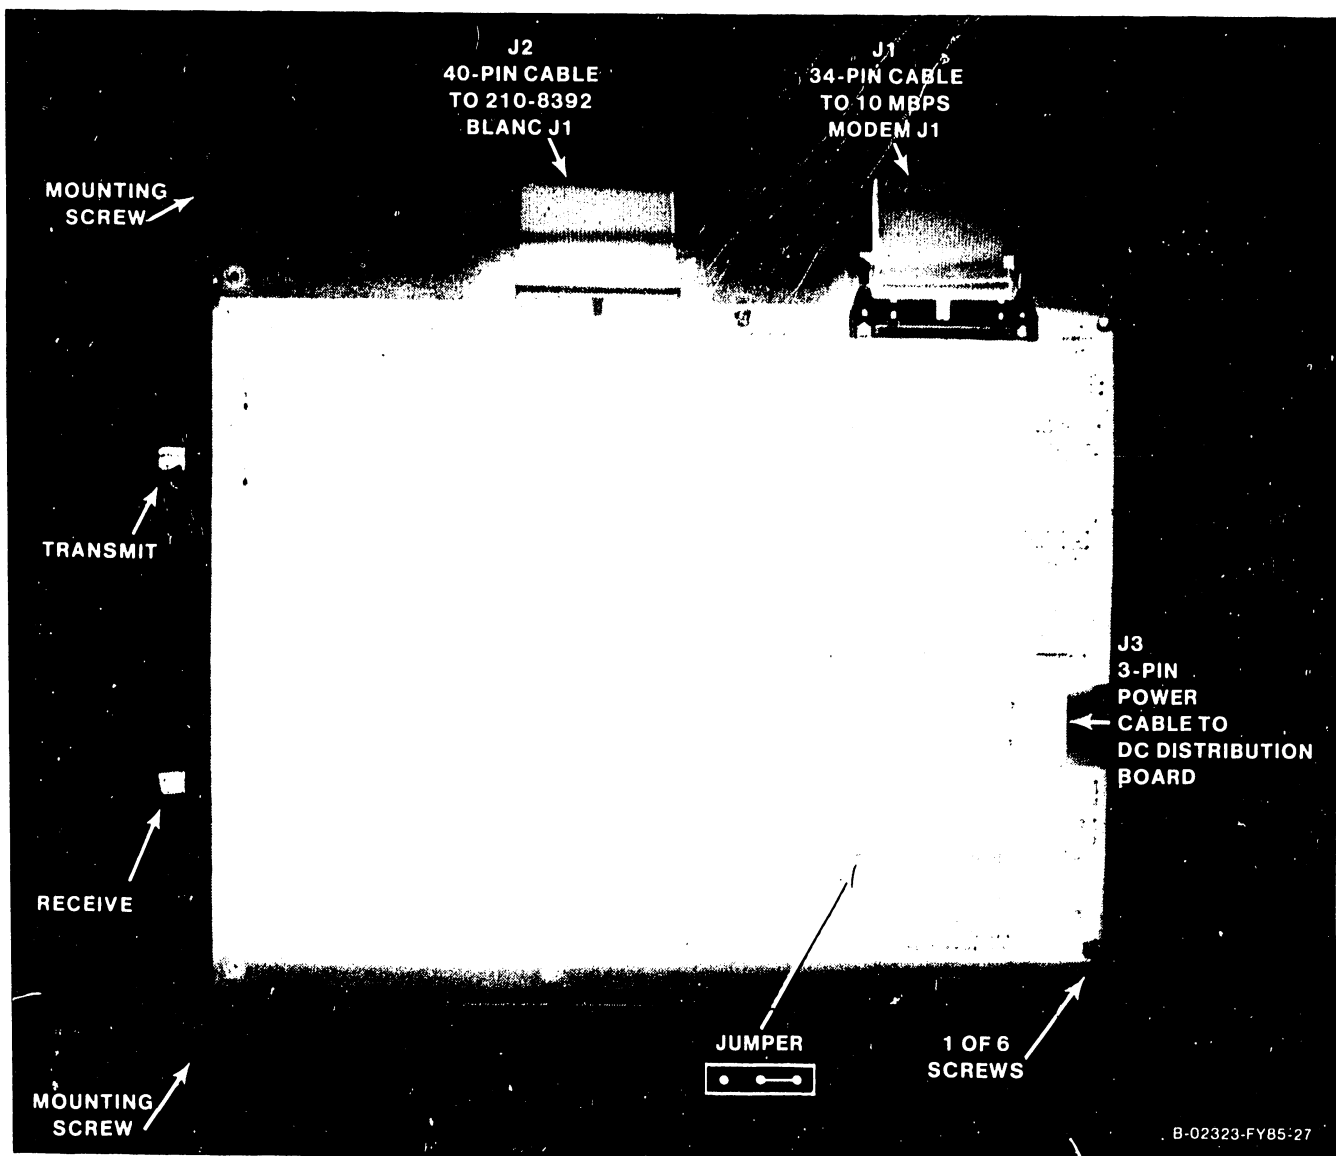

Figure 7-39. 23V79 CIU CAB Board
1. The 279-0722 CIU CAB board/Single Channel 10MBPS RF Modem must be replaced as an entire assembly. The 210-8391 CIU CAB board (figure 7-39) is mounted on top of the Single Channel modem (figure 7-40).
8. After checking the 3-position jumper shown in figure 7-39, install the new assembly.